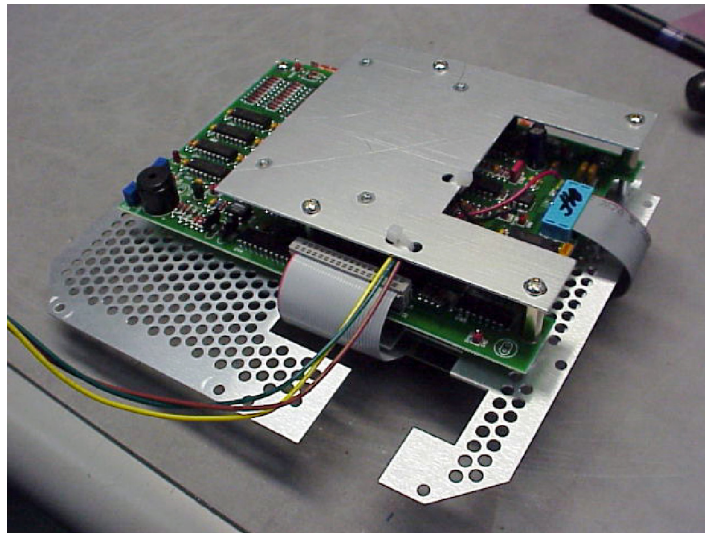

Figure 12: Attaching the Touch Panel Controller assembly to the Keypad board
- f. Position the Touch Panel Controller board and bracket assembly on the standoffs on the Keypad board (see Figure 12).